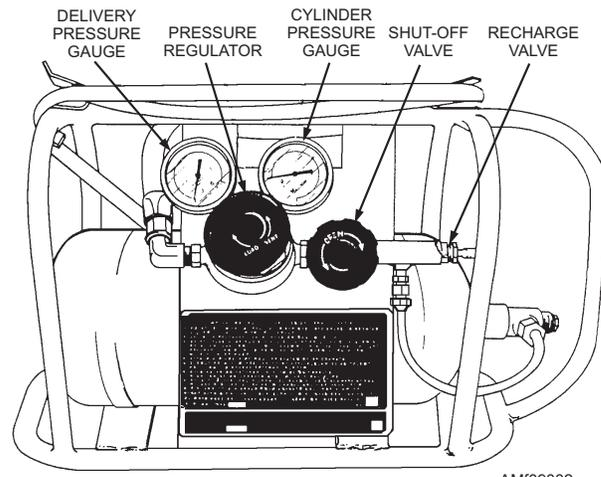

Figure 9-2.—Portable high-pressure nitrogen cylinder.
The walk-around bottle, shown in figure 9-2, is designed for hand carrying to remote locations for charging such components as accumulators, aircraft struts, and high-pressure tires. The user can control delivery pressure up to a maximum of 3,000 psi.
**CHARGING AN EXTERNAL SYSTEM.**—Follow these steps to charge an external system from a walk-around bottle. (Refer to figures 9-2 and 9-3 for controls and indicators.)